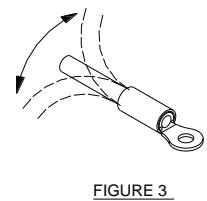

FIGURE 3
7. Withdraw the crimped sample and flex the wire three times (See Figure 3). If